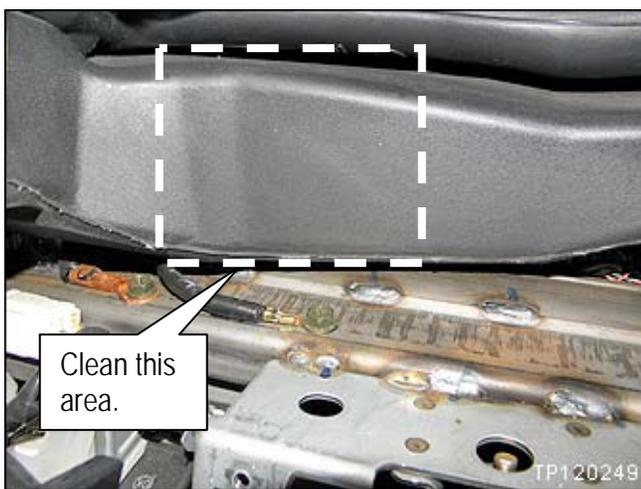

Figure 11a
11. Install the gray foam protector as shown in Figures 11a and 11b):